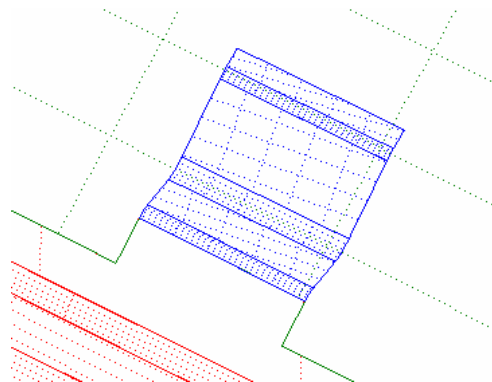

Figure 55 Selected flange surfaces
5. Select the flange surfaces as illustrated in Figure 55.